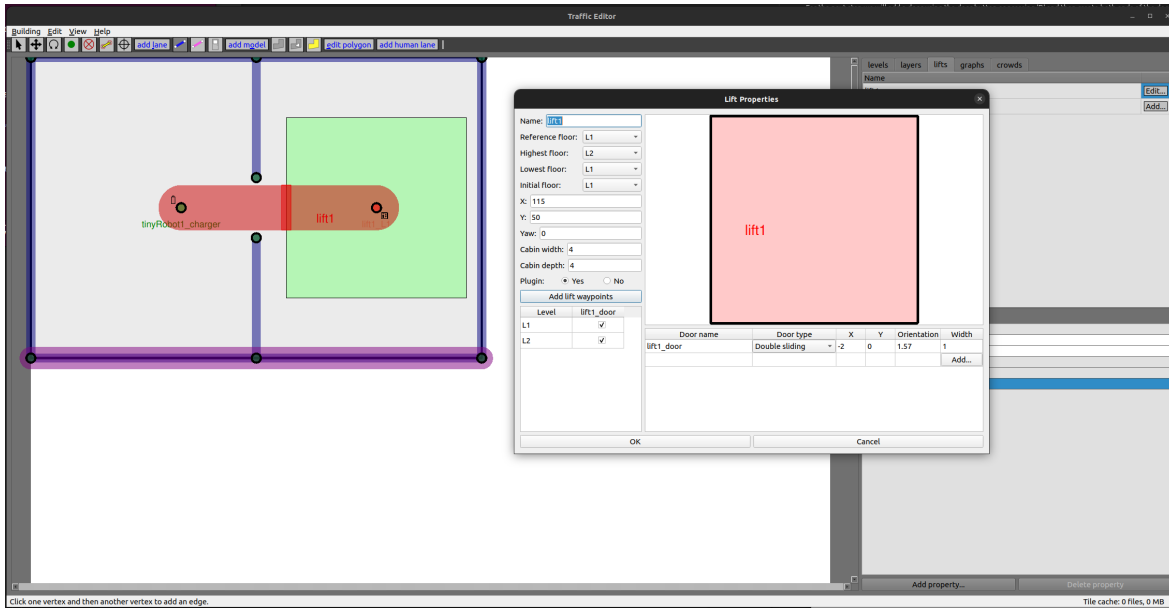

Figure 19: Creating a Lift
- To create a lift, go to the upper-right panel named lifts and add a new one. Fill in the information such as name, x and y positions, floors, and add one or multiple doors. This is a complex process as you need to align the door to the lift and the map and it may take some trial and error to get the result you want. Once you have the results you want, press “add lift waypoints” as shown in the example so that waypoints for each of the lifts floors are automatically created and then name them, check Figure 19 as an example.